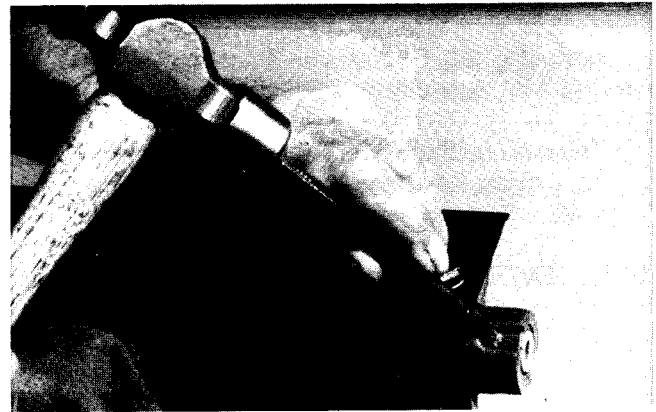

Figure 34
2. Remove bedbar end bushings with a punch and hammer (Fig. 34). Alternate from one side to other on bushing (there are two slots in bedbar bushing boss).